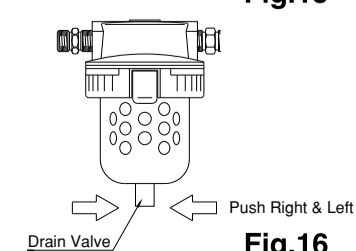

Fig.16
### ② Moisture in the Air Filter (Fig.16)